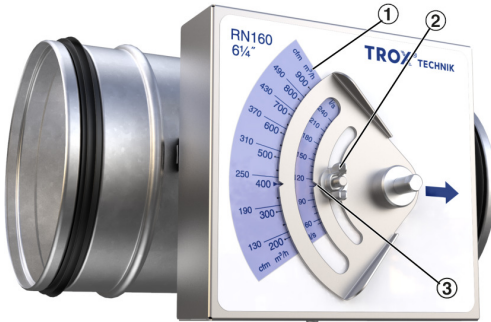

Fig. 21: Setting the volume flow rate
1. ▶ Loosen the wing screw (Fig. 21/2).
2. ▶ Set the notch on the adjustment scale to the desired value on the volume flow rate scale (Fig. 21/3) and fix with the wing screw (Fig. 21/2).